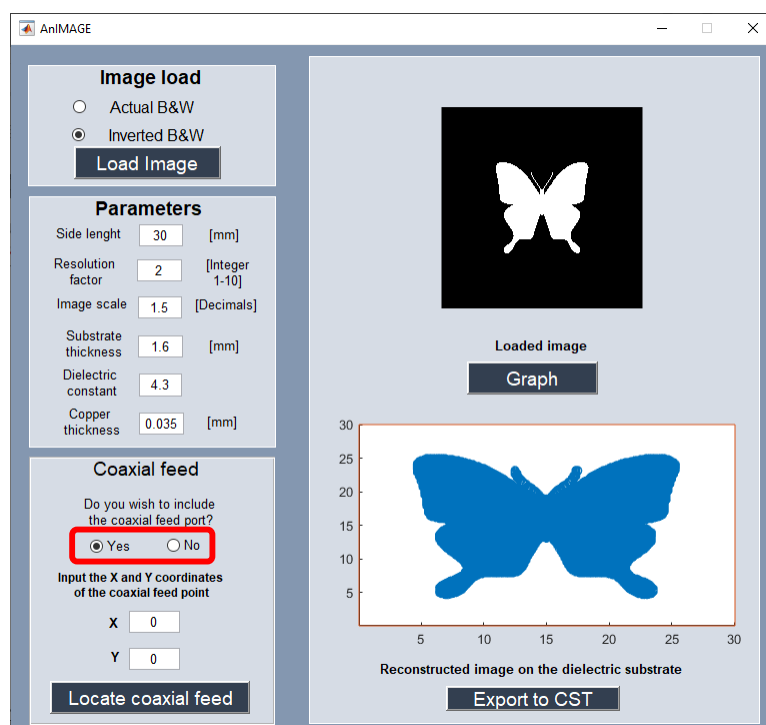

Figure 9. The user decides whether to add the coaxial feed to the designed antenna.
Step 3: Now, the Coaxial feed option is available. Then, the user has the option of adding the coaxial cable. In the proposed example, we choose the option **YES**, as shown in Figure 9.